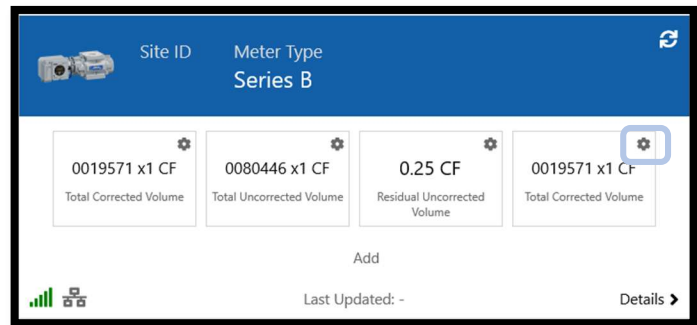

Figure 2: Settings
2. Click the settings icon ⚙ in the new data block (Figure 2).